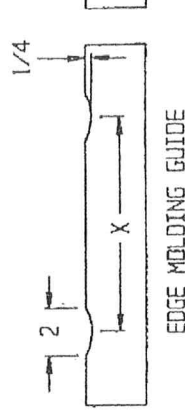

Fig. B-9
- C. Cut 1/4" deep arcs to allow clearance of the feed rollers (see fig. B-9).